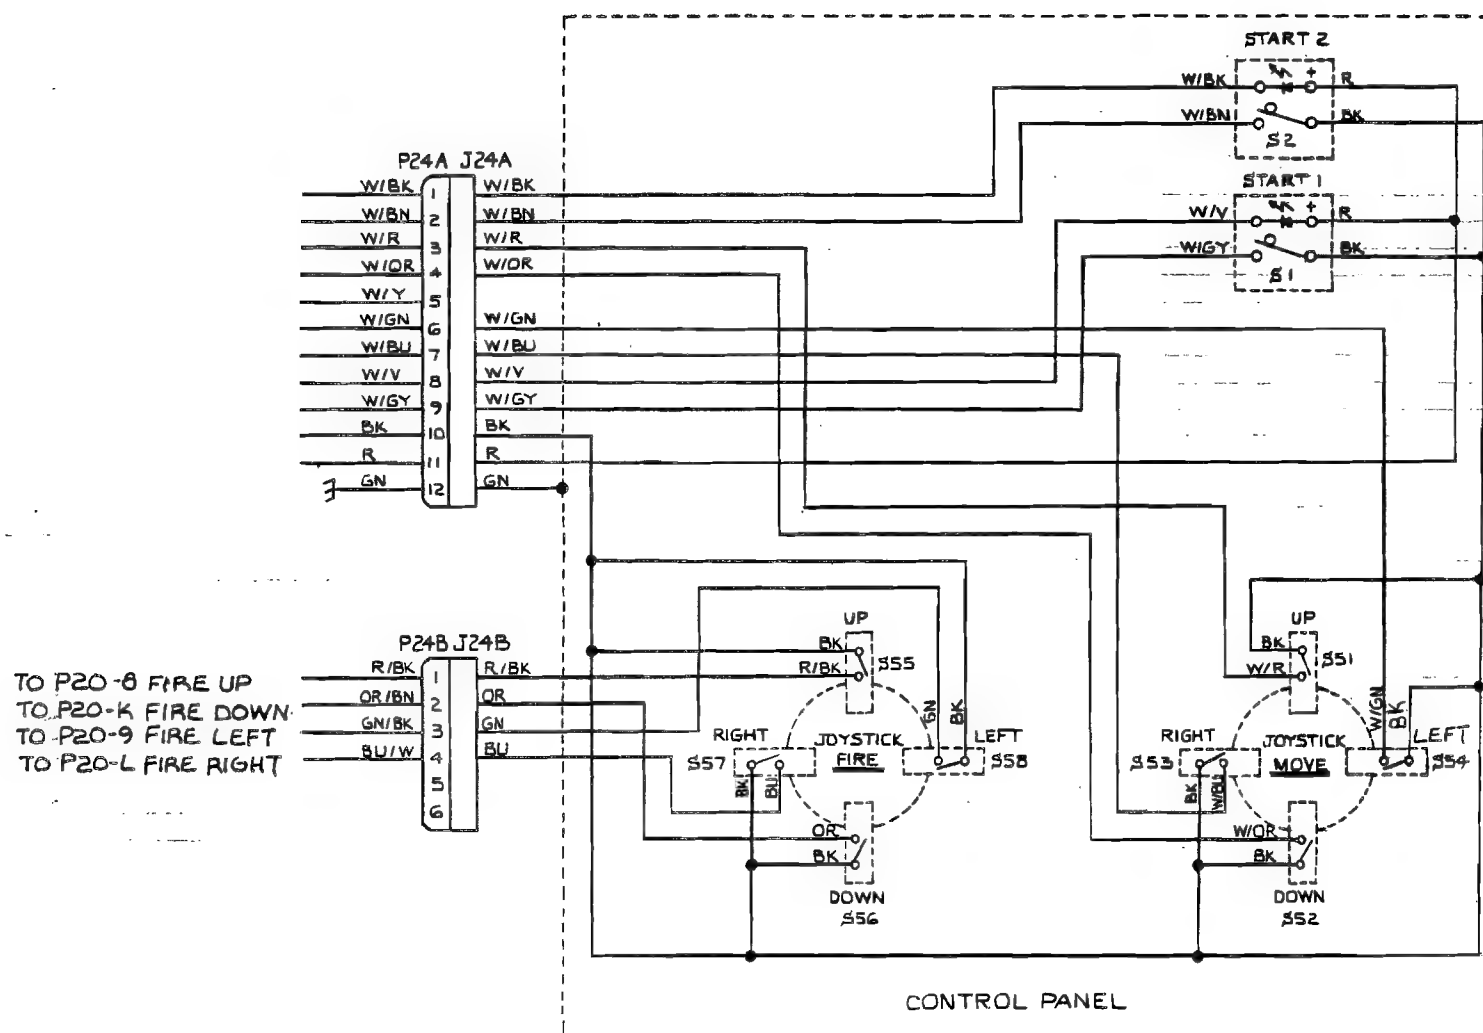

Figure 6 Sheet 1B (Gravitar Main Wiring Diagram) Changes
- Sheet 1B, Gravitar Main Wiring Diagram: Replace the Control Panel section of the wiring diagram with Figure 6.